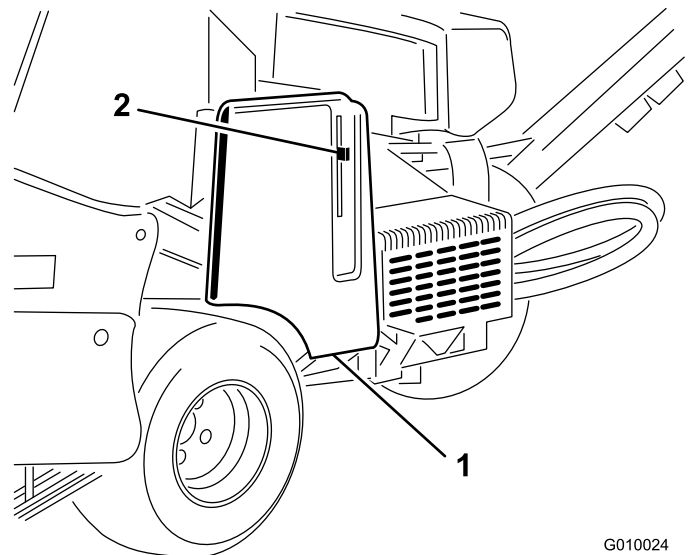

Figure 61
2. Unlatch and remove the belt cover (Figure 61).